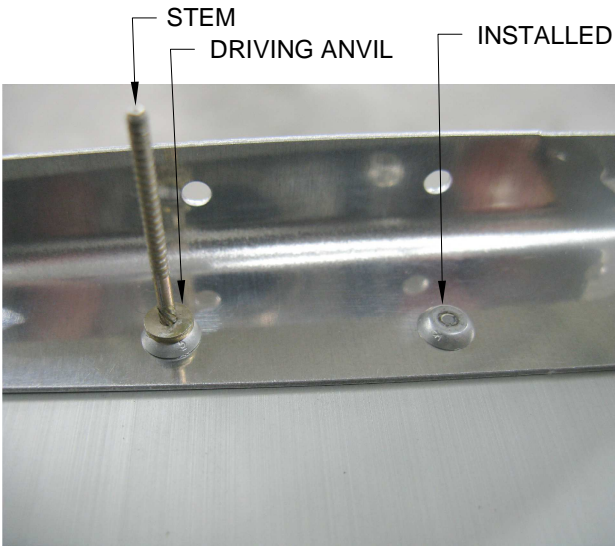

FIGURE 1: MANUFACTURED HEAD
This small washer like device located above the manufactured head is a critical component of the installation process and **must not be removed**. It will detach on its own after the stem breaks. See Figure 1.
**Step 3:** Insert rivet in hole and verify manufactured head fits square and flush to material surface. See Figure 1.
**Step 5:** Operate tool while taking care to not lean tool or bend rivet stem while doing so. Continue to pull rivet stem until it snaps free as shown in Figure 1.